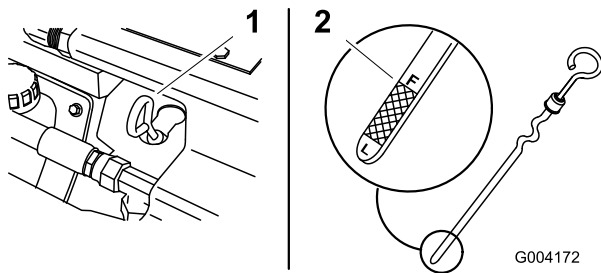

Figure 9
4. Clean around the oil dipstick (Figure 9).
5. Pull out the dipstick and wipe the metal end clean (Figure 9).
6. Slide the dipstick fully into the dipstick tube (Figure 9).